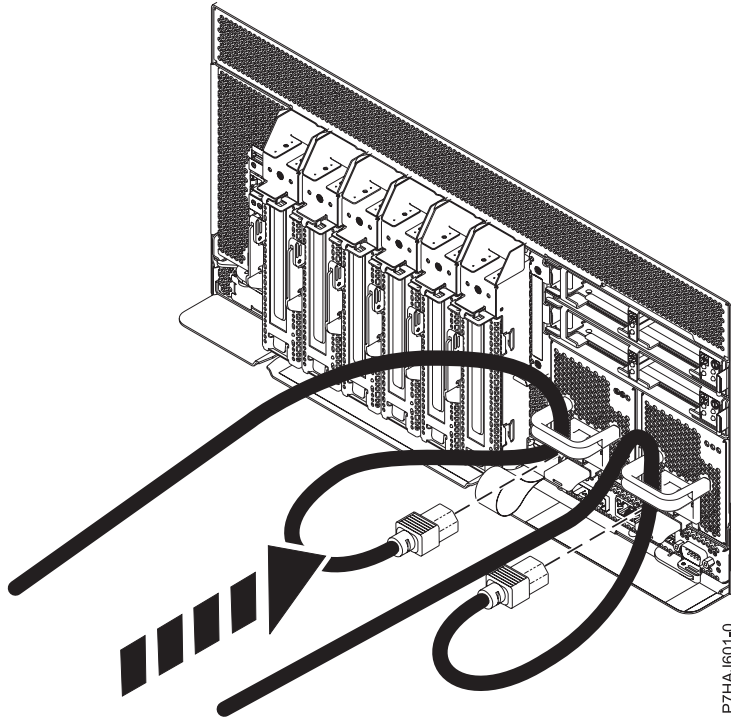

Figure 22. Connecting the power cords
2. Reconnect the power cord to the system unit as shown in Figure 22 on page 37. Ensure that the cords are threaded through the handles.